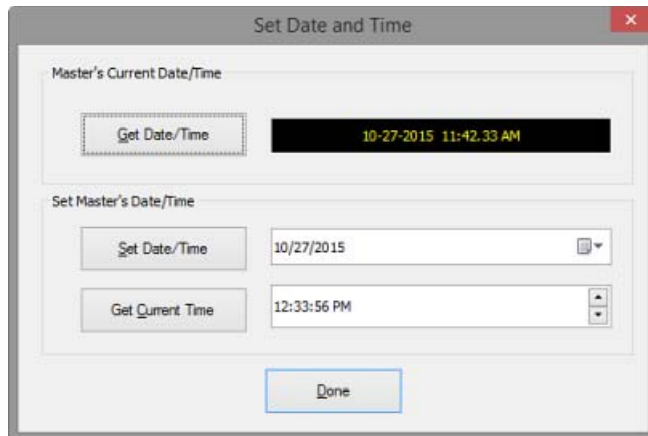

FIG. 30 Set Date and Time dialog
1. Select **Check Master's Date/Time** in the *Master Controller* Tasks window to open the *Set Date and Time* dialog (FIG. 30). Note that this command is also available via the Options Menu.